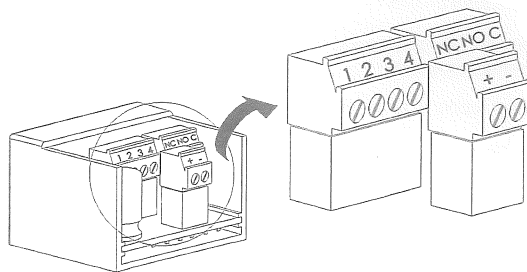

Fig. 2-2. Relay Board Connections
- Relay board is changed. In this case, both devices require a new pairing operation. Before starting, make sure that the relay board that is being installed has default values. For this, press the CLR button (see figure 2.2), while the relay board is powered. There are two different ways to pair them: